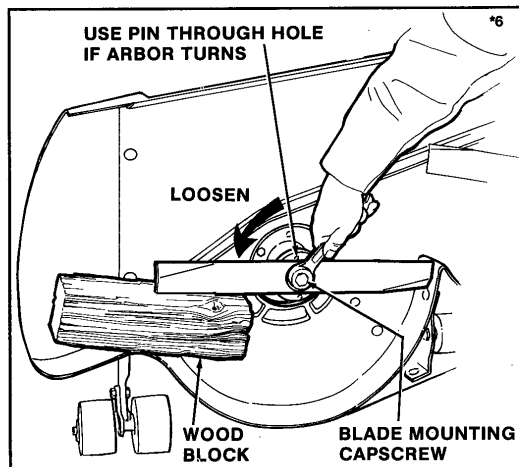

Figure 24. Removing Blade
2. Position the mower as in figure 24. Secure the mower so its will not fall or slide.
4. To remove the blade for sharpening, use a wooden block to hold blade while removing the capscrew (figure 24).